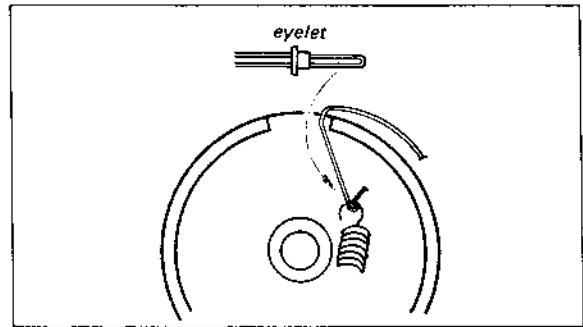

Fig. 2-9. Finishing dial cord stringing
- 5. Pass the doubled end of the cord through the eyelet, then hook it to the spring as shown in Fig. 2-9.